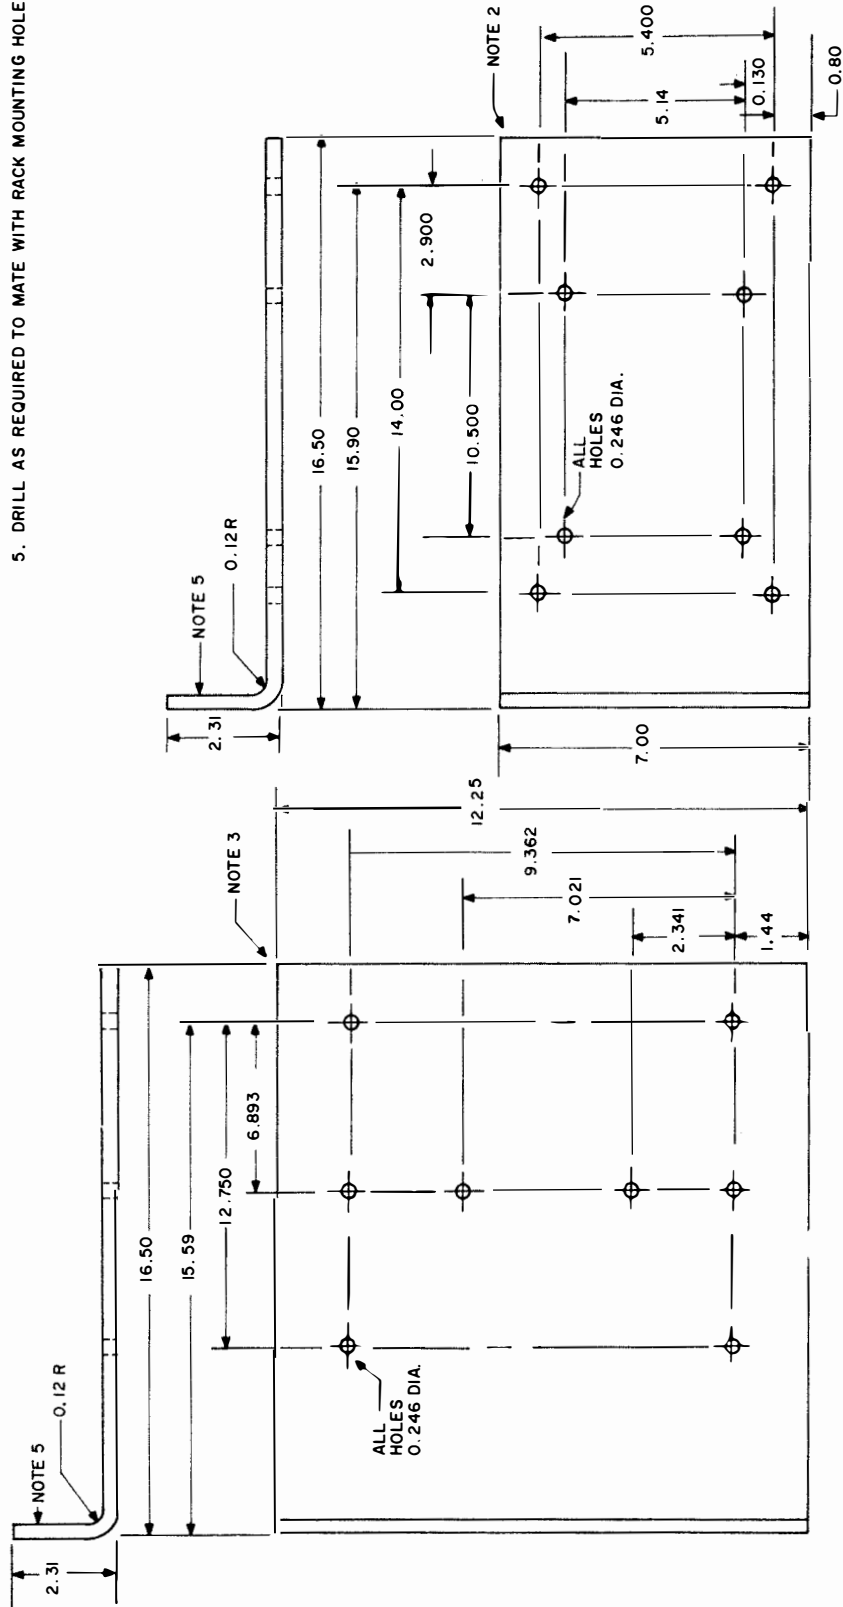

Figure 2-2. Rack Mounting Bracket Fabrication Details for Shore Installations
2-17. RACK MOUNTING. The units can be rack mounted in Cabinet Electrical Equipment CY-4516/S (or equivalent). To accomplish this, rack mounting brackets must be fabricated. Figure 2-2 provides all information required to fabricate the rack mounting brackets for shore installations. For shipboard installations a special installation "kit" (supplied by the installing activity) will be required. To install the equipment in the CY-4516/S, proceed as follows:
d. For shore installations, use the information contained in figure 2-2 to fabricate rack mounting brackets for each unit. For shipboard installations, obtain a special CY-4516/S shipboard installation kit from stock supply.